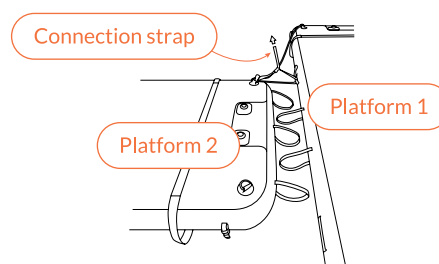

Fig 62 – Loosely feed the connection straps between the Platforms
5. Loosely feed the two connection straps provided through the D-rings of Platform two, either side of the desired Air Toggle connection (Fig 62).